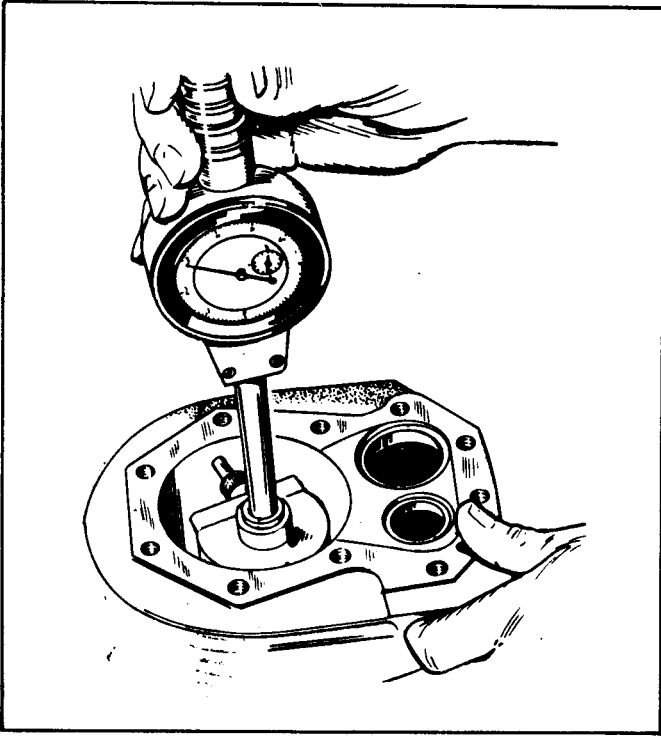

FIGURE 13. METHODS OF MEASURING THE DIAMETER OF A CYLINDER
- Check the cylinder bore for taper, out of round and wear, with a cylinder bore gauge, telescope gauge or inside micrometer (Figure 13). These measurements should be taken at four places – the top and bottom of piston ring travel.